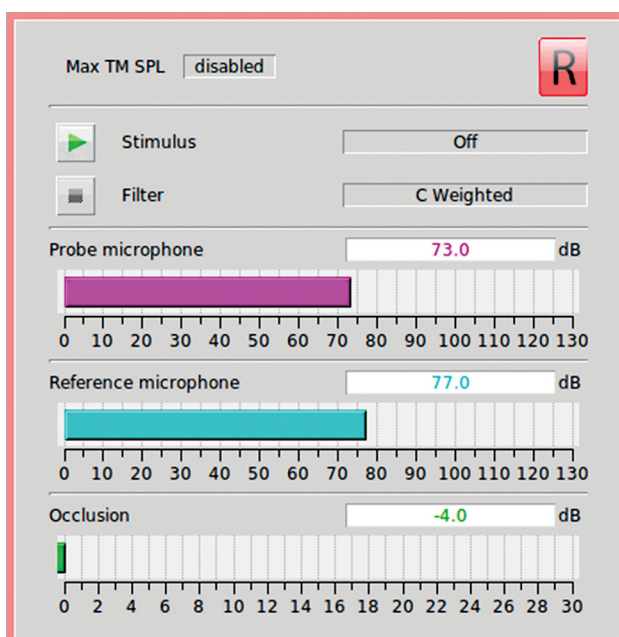

Figure 2 Occlusion test results with an open ear.
6. Look now at another measurement that was taken with an open ear (Figure 2).